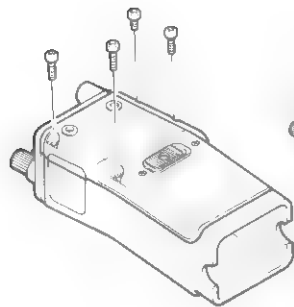

Fig. 1
2. Unscrew the four screws on the rear (Fig. 1). The screw near the antenna connector is a short one.